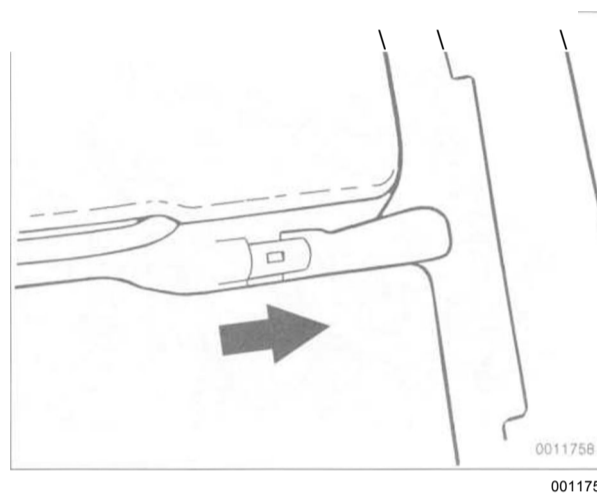

Fig. 21. Push backrest lock in direction of **arrow** and lift out backrest.
4. Unlock backrest and remove upwards. See Fig. 21.